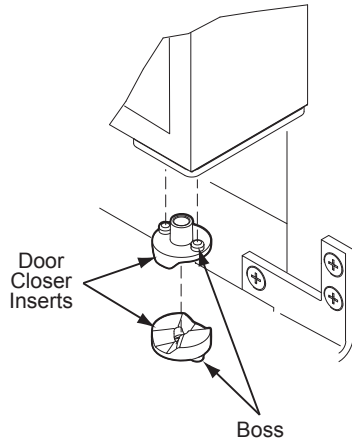

Figure 3
- 5 After adjustment is complete, remove the door closers from the bottom hinge, clean thoroughly and apply petroleum jelly to the mating surfaces of the closers (Figure 3). Be sure that bosses on closers align with holes in hinge and hinge plate. Mount door and install top hinge pivot pin.